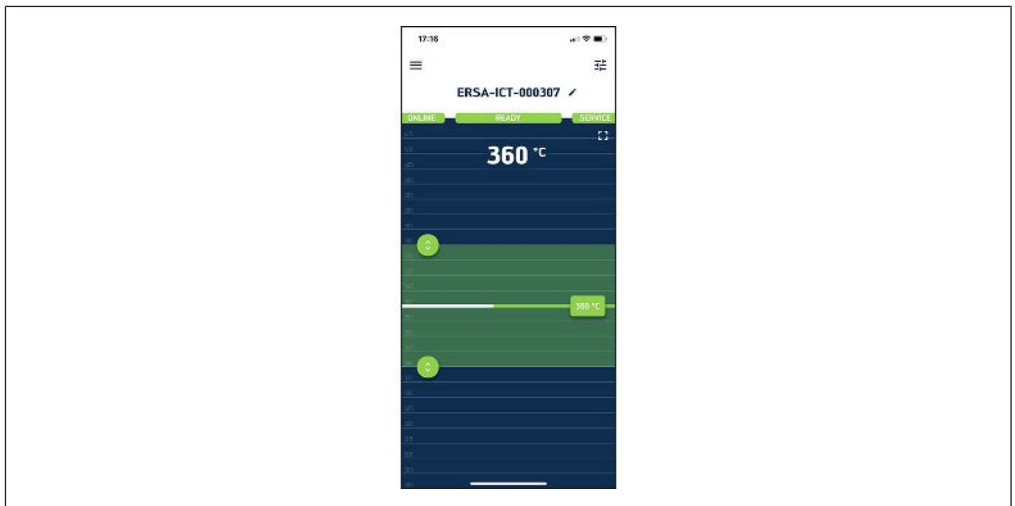

Fig. 15: Starting page of the “Ersa TRACE” app
- a) Figure 15 on the left: Insert the soldering iron all the way into the changeable funnel [1], then tilt the soldering iron slightly away from you [2].
- b) Figure 15 on the right: Turn the soldering iron anti-clockwise as far as it will go [3], then tilt the soldering iron slightly away from you and pull it out of the soldering tip [4].